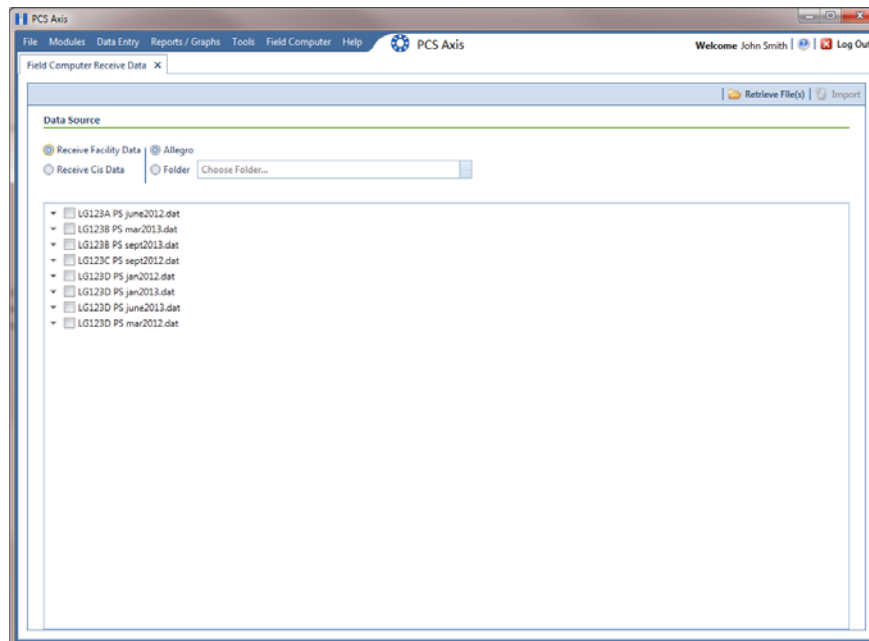

Figure 13-17. Field Computer Receive
- 2 Click **Field Computer** > **Receive** to open the *Field Computer Receive Data* window (Figure 13-17).